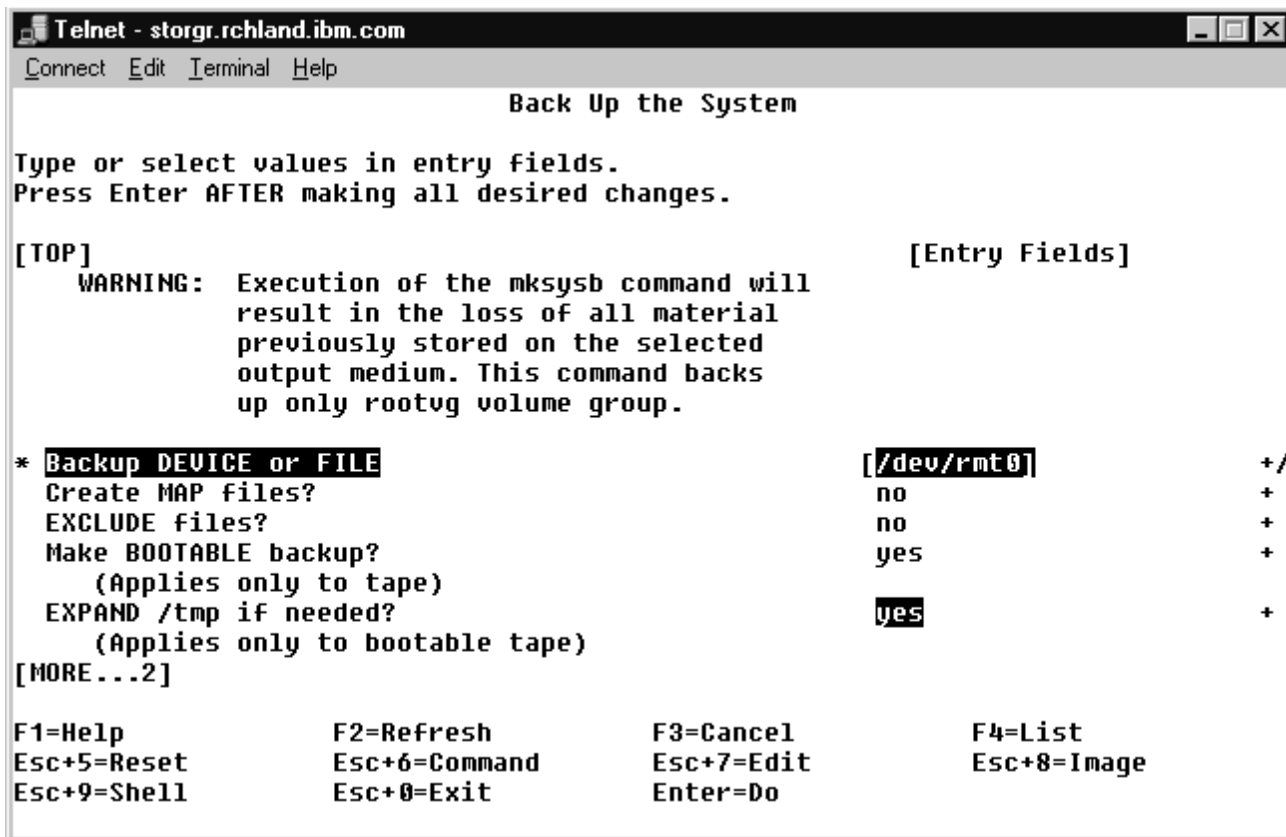

Figure 80. Back Up the System SMIT Screen
4. Fill in the **Back Up the System** screen as shown in Figure 80 on page 126.